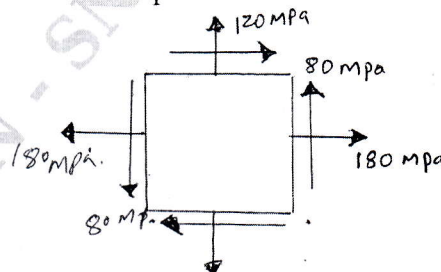

Fig.Q3(b)
- b. State of stress at a point in a strained material is as shown in Fig.Q3(b). Determine: